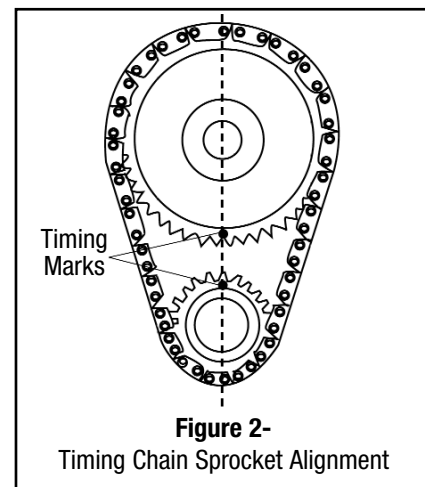

Figure 2-
14. Rotate engine until timing marks are aligned as shown in Figure 2.
CAUTION: Use Edelbrock Performer-Plus True Rolling Timing Chain and Gear Set #7813. Do not use late model timing chain & gear sets that are designed in a retarded position and are not recommended for this camshaft installation. Edelbrock Timing Sets feature three keyways for specific timing selection. Use locking compound material on the bolt threads holding timing gear to cam. Torque to factory recommendations specified in motor repair manual. Install camshaft with timing marks lined up as recommended by factory specifications. See Figure 2.
After the cam is installed and timed correctly (see Figure 2), it will be necessary to check each pushrod for correct lifter pre-load. Before installation, be sure to coat friction surfaces of pushrods, rocker arms and pivots with a suitable lubricant such as motor oil or assembly lube.